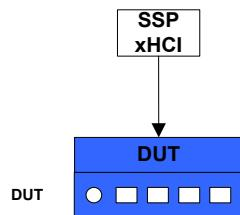

Figure 6-22: Compound Device Only Topology
- o Configure the Device Under Test as shown in Figure 6-22 and attach it to an xHCI port.
- Attach the configuration shown in Figure 6-22 to an available SSP xHCI port.